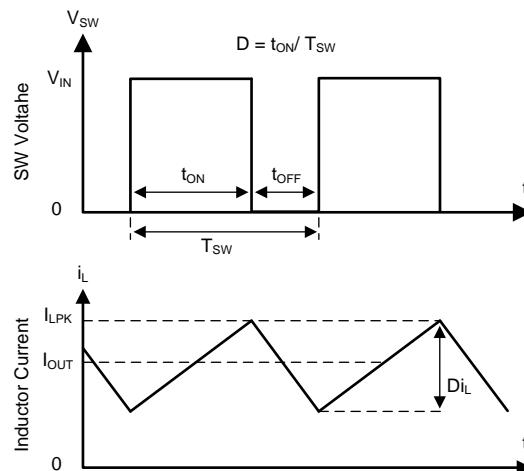

图 13. SW Node and Inductor Current Waveforms in Continuous Conduction Mode (CCM)
The following operation description of the TPS560430 will refer to the Functional Block Diagram and to the waveforms in 图 13. TPS560430 is a step-down synchronous buck regulator with integrated high-side (HS) and low-side (LS) switches (synchronous rectifier). The TPS560430 supplies a regulated output voltage by turning on the HS and LS NMOS switches with controlled duty cycle. During high-side switch ON time, the SW pin voltage swings up to approximately V_{IN} , and the inductor current i_L increase with linear slope $(V_{IN} - V_{OUT}) / L$. When the HS switch is turned off by the control logic, the LS switch is turned on after an anti-shoot-through dead time. Inductor current discharges through the low-side switch with a slope of $-V_{OUT} / L$. The control parameter of a buck converter is defined as Duty Cycle $D = t_{ON} / T_{SW}$, where t_{ON} is the high-side switch ON time and T_{SW} is the switching period. The regulator control loop maintains a constant output voltage by adjusting the duty cycle D. In an ideal Buck converter, where losses are ignored, D is proportional to the output voltage and inversely proportional to the input voltage: $D = V_{OUT} / V_{IN}$.